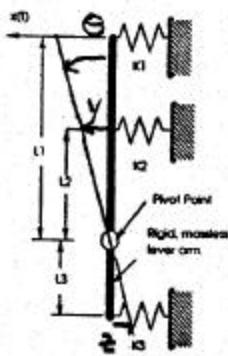

Figure 3
- a. Use the concept of equivalent potential energy to find the equivalent linear stiffness with respect to x for the system shown in Fig. 3. That is, find K_e so that the potential energy stored in the system is equal to $\frac{1}{2} K_e (x)^2$.